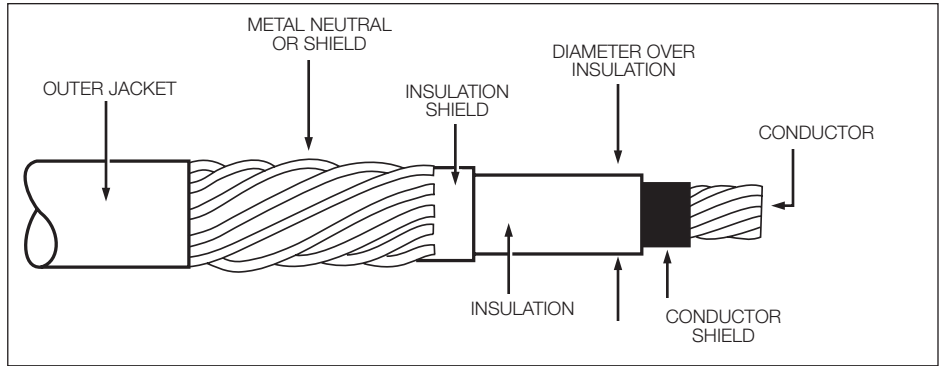

Figure 4. Illustration showing typical construction of medium voltage underground cable.
STEP 1: Determine the cable's diameter over the electrical insulation as shown in Figure 4 (including tolerances). Then identify a cable range from Table 3 that brackets the minimum and maximum insulation diameters. Select the CABLE RANGE CODE from the far right column.